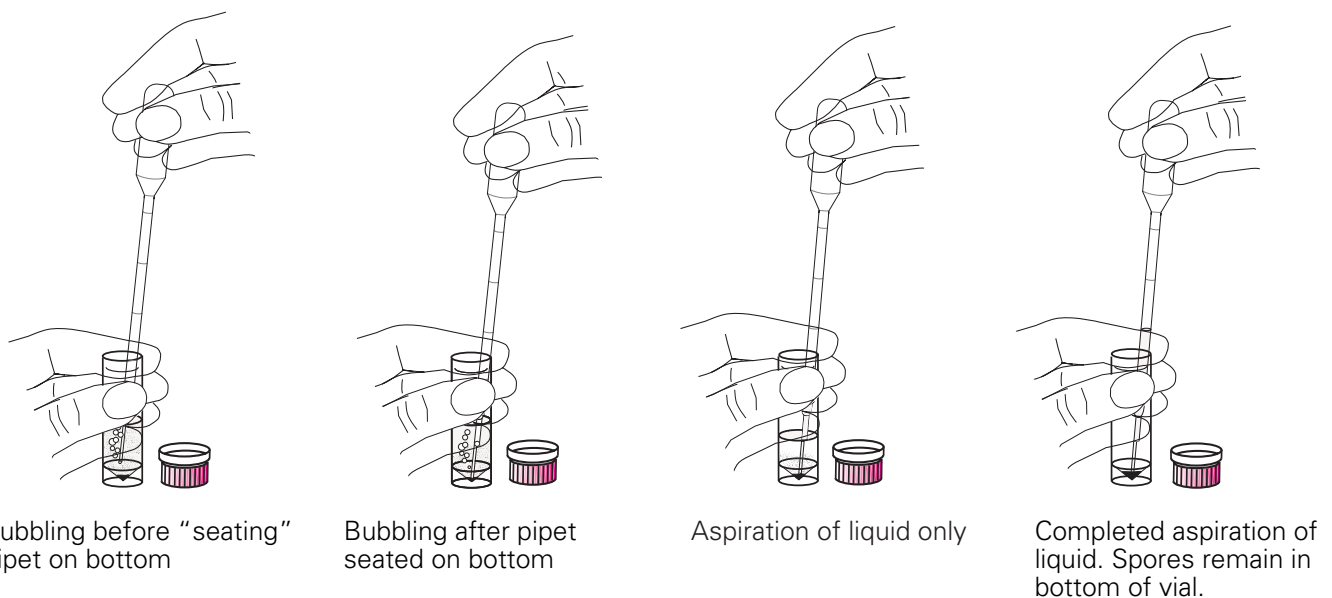

Figure 4. Spore sterilization procedure
- REMOVE PRESOAK WATER.** Insert the sterile pipet into a conical tube and suspend the spores by bubbling a small amount of air into the water (see Figure 4). While air is slowly bubbling out of the pipet, gently but securely seat the pipet onto the base of the conical tube. Sometimes it helps to gently rotate the pipet tip to seat it properly. Squeeze the bulb to force additional air out of the pipet. When the bulb is released, water should enter the pipet, and the spores should collect around the outside of the base of the pipet tip, provided the pipet is securely seated on the tube bottom (see Figure 4). If you cannot remove the liquid without bringing the spores along, try another pipet. Remember that timing is critical when the sterilizing solution is in the tube! Practice this technique with the presoak water prior to sterilizing the spores. With practice, you should be able to remove the liquid, free of spores, in about 10 seconds or less.